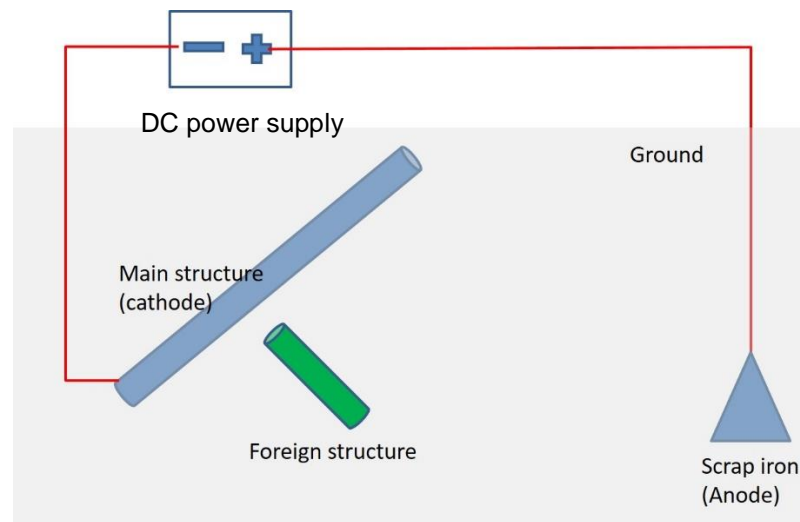

Figure 5: Stray current corrosion
- (6). (a). Figure 5 shows stray current corrosion occurs on a foreign structure and Table 1 shows the pipe-to-soil potential of foreign structure before and after switching on power supply of ICCP.
- (iii). Propose and sketch one method to minimize stray current corrosion as given in Figure 5.